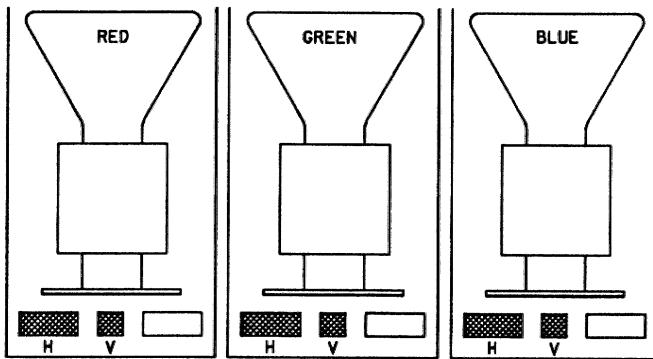

FIGURE B-1. Yoke Plug Locations
b) **Locate the Yoke Plugs.** The horizontal and vertical yoke plugs are located at the rear of the projector, slightly below the CRT necks. See Figure B-1 below.